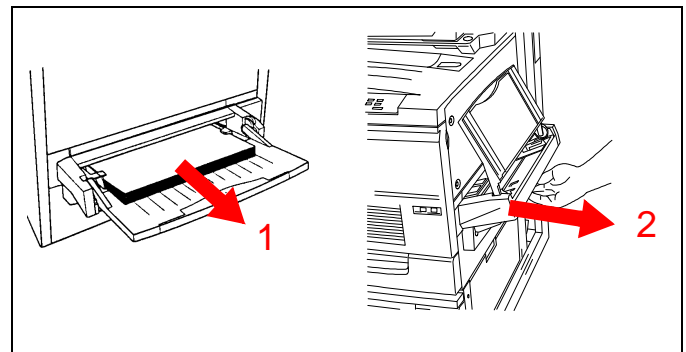

Figure 21
1. See Figure 21. Remove all paper from the bypass tray.